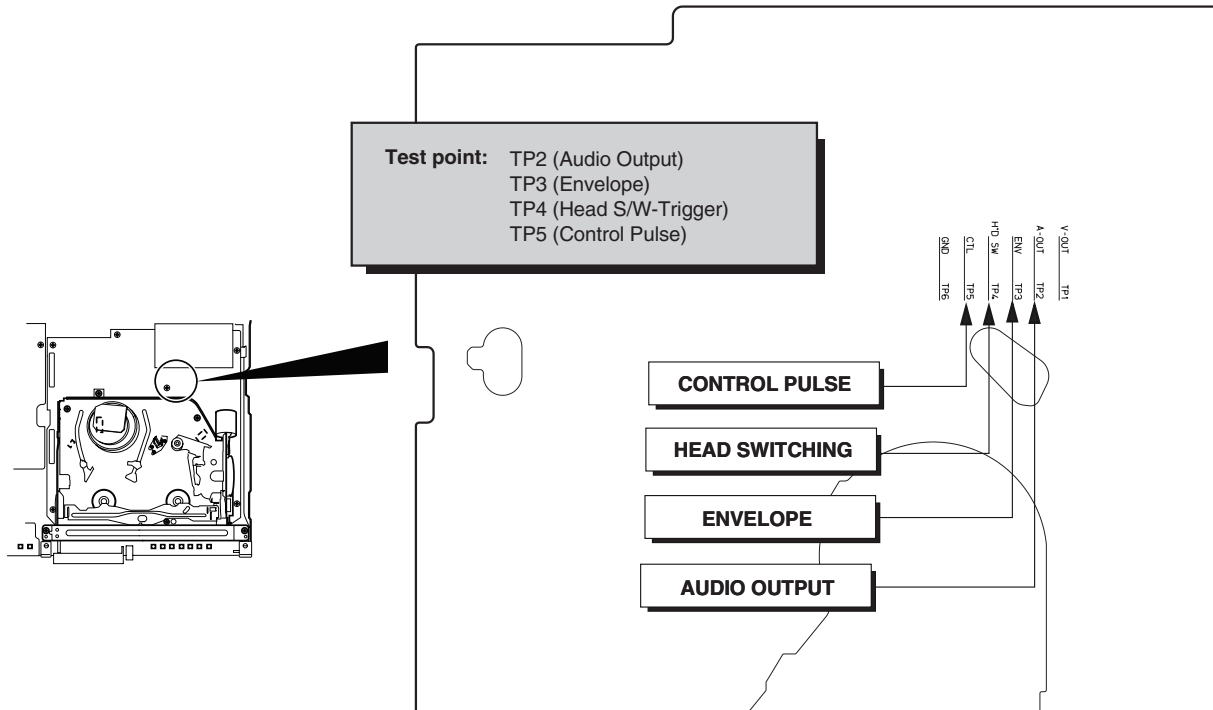

Fig. 5-3-6 Locations of Test points (VCR Main P.C.B-Top View)
- 2) Connect the oscilloscope CH-1 probe to TP3 (ENVELOPE) and CH-2 probe to TP4 (Head S/W-Trigger), and then trigger the oscilloscope from CH-2. (See Fig. 5-3-6)